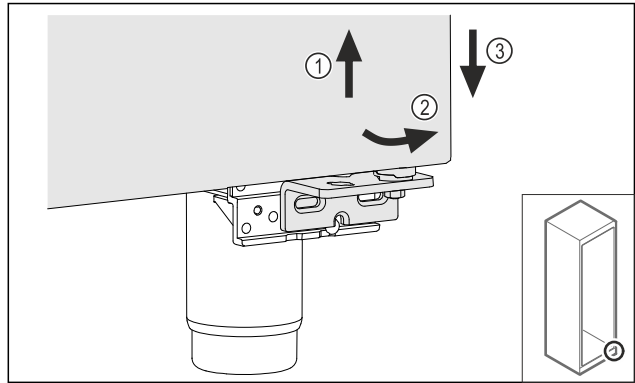

Fig. 19
- Lift the door slightly Fig. 19 (1), tilt it forwards at the bottom Fig. 19 (2) and lower it Fig. 19 (3).